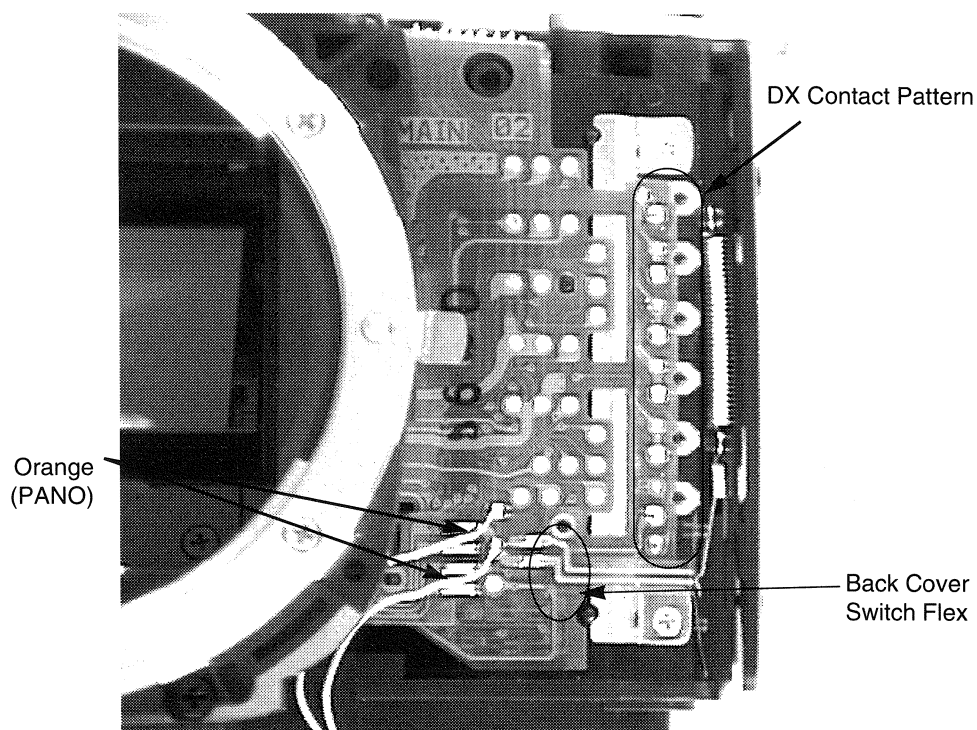

Fig. 3-17 DX Contacts
6. (EOS55) Unsolder the two panorama switch leads (Fig. 3-17).
7. Unsolder the back cover switch flex (Fig. 3-17).